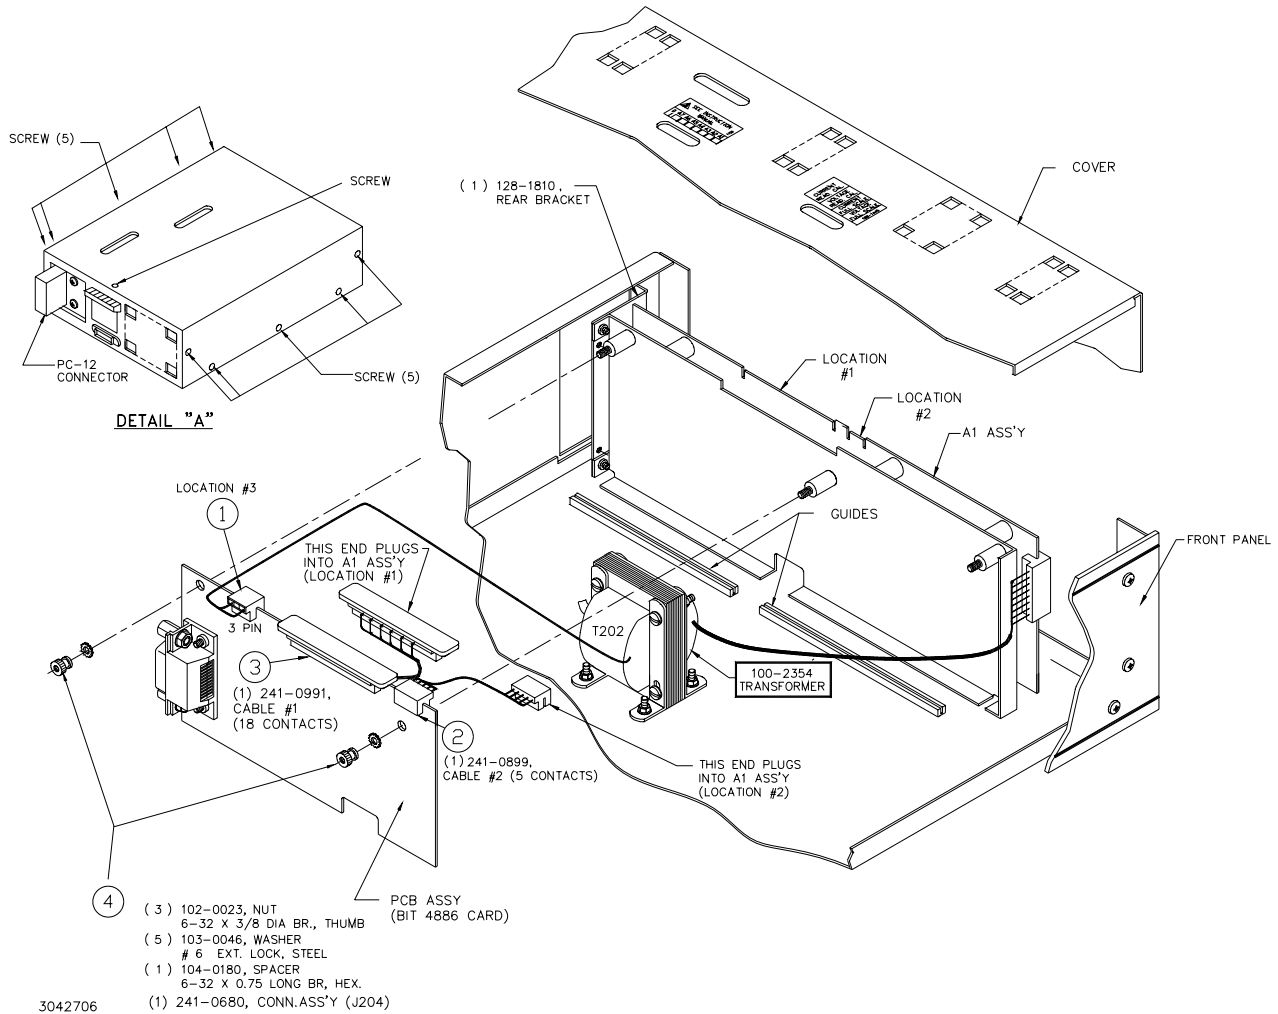

FIGURE 1. BIT CARD REMOVAL
2. Remove BOP cover by removing 11 screws: (five from each side and one from the top (see Figure 1, Detail A).
3. Remove the BIT 4886 Interface card from the BOP as follows (See Figure 1):
NOTE: Numbers in circles of Figure 1 refer to numbered steps below:
2. Connect GPIB cable from the rear of the BOP to a Microsoft Windows-based computer with National Instruments VISA software installed to BIT 4886 card and verify that BOP has standard PC-12 connector installed (Figure 1).